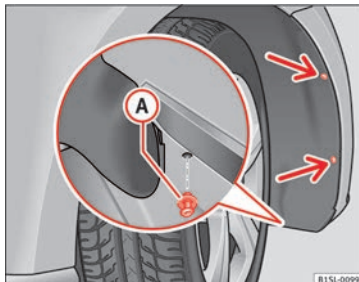

Fig. 86 In the front right wheel arch: Remove the retaining screws (arrows) and take out the expansive rivet **A**.
1. Unscrew the 2 retaining screws of the wheel arch trim **»»»** Fig. 86 (arrows) with the screwdriver from the vehicle tool kit **»»»** page 70.
10. Place the expansive rivet in the wheel arch trim and bumper and press it completely inwards **»» Fig. 86 (A)**.
11. Securely screw the 2 retaining screws **»» Fig. 86** (arrows) with a screwdriver.